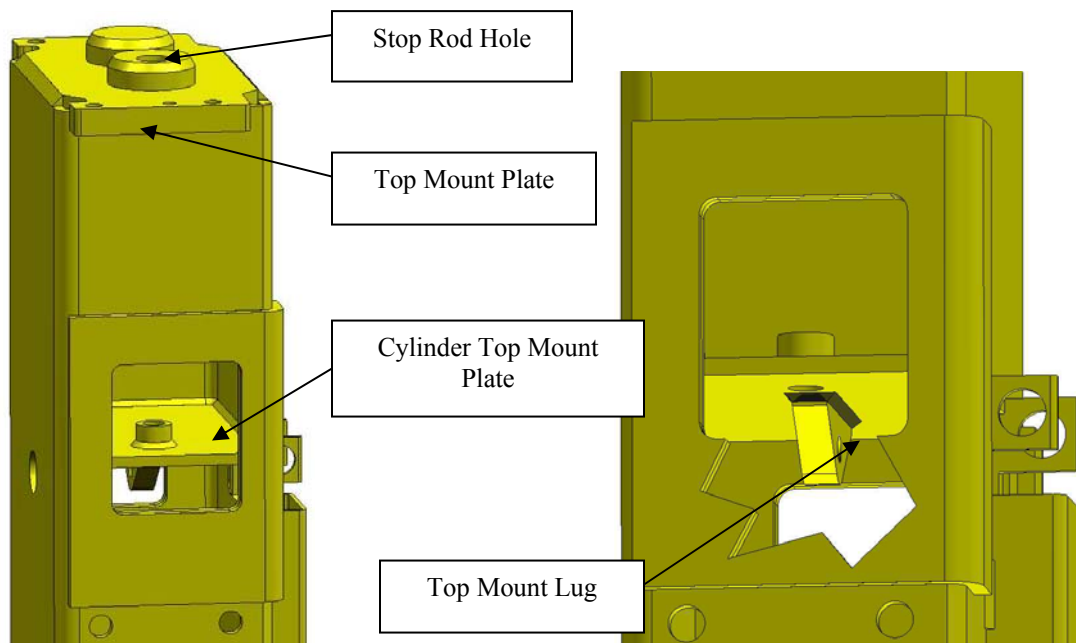
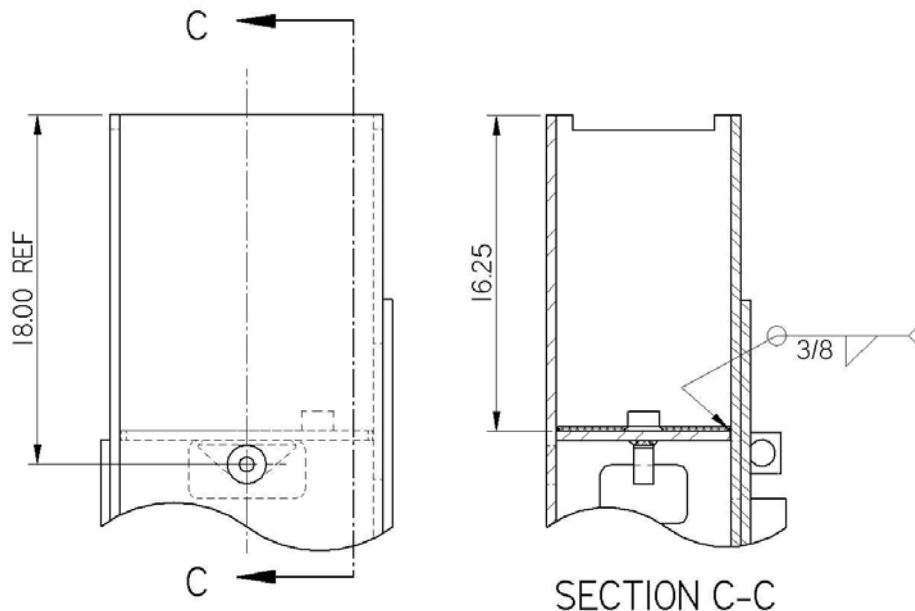

Figure 5: Long Outer Tube - Top Mount Lug
Figure 7: Welding of Cylinder Top Mount Plate
This procedure covers the repair of the lug on the BUW top mount plate. There are two different designs as to the location of this lug. In the short BUW, the lug is welded directly to the cylinder top mount plate of the outer tube as shown in figure 1. In the long BUW, the lug is welded to the cylinder top mount plate inside the outer tube as shown in figure 5.
- c) Looking inside the outer tube, you will see the cylinder top mount plate as shown in figure 5. Torch cut/Arc air the weld around the cylinder top mount plate, and be extremely careful not to damage the outer tube or expose too much heat to it.
- g) Prior to inserting the new cylinder top mount plate P/N 829-48-0 into the outer tube, make sure that the plate is oriented with the lug towards the bottom and the stop rod hole is as shown in figure 5. Position the top of the cylinder top mount plate at 16.25 inches from the top of the outer tube as shown in figure 7. When positioning the plate, make sure it is positioned perpendicular to the outer tube.